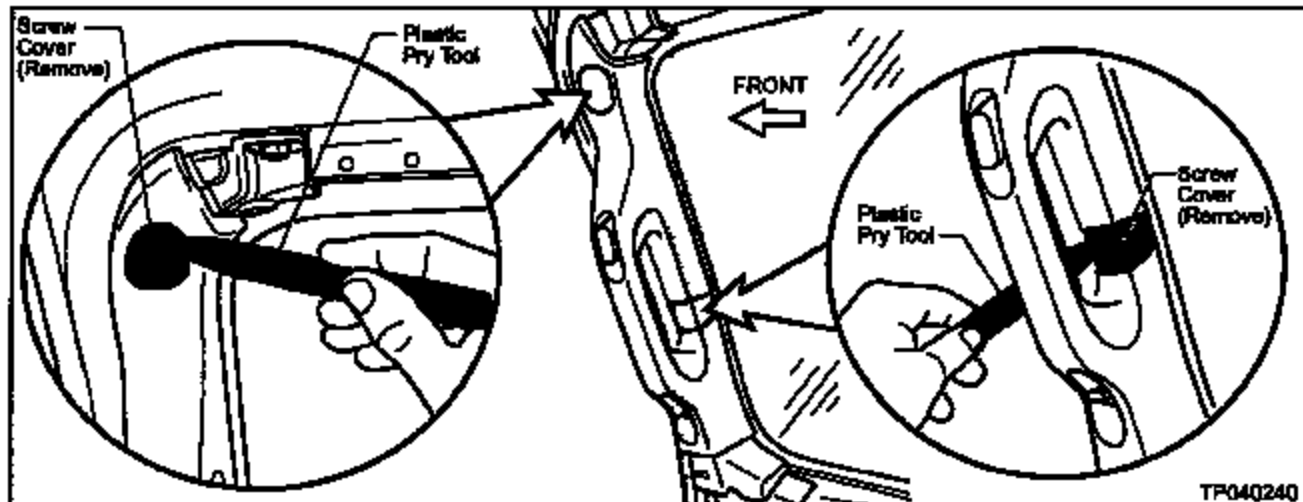

Figure J19
18. Remove the two Screw Covers from the Sliding Door Handle using a Plastic Pry Tool (J-46534\* or equivalent). See Figure J19.